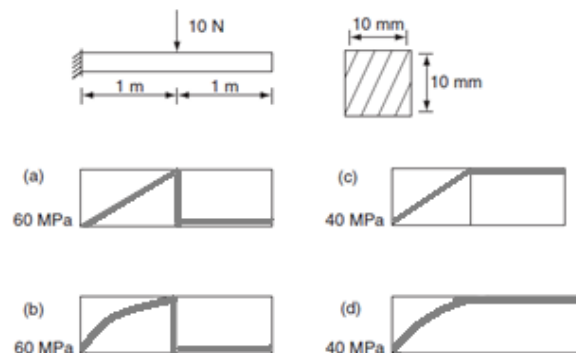

Figure 20 Question 32.
- 32.** A cantilever beam has square cross-section of 10 mm \times 10 mm. It carries a transverse load of 10 N (Figure 20). Considering only the bottom fibres of the beam, the correct representation of the longitudinal variation of the bending stress is